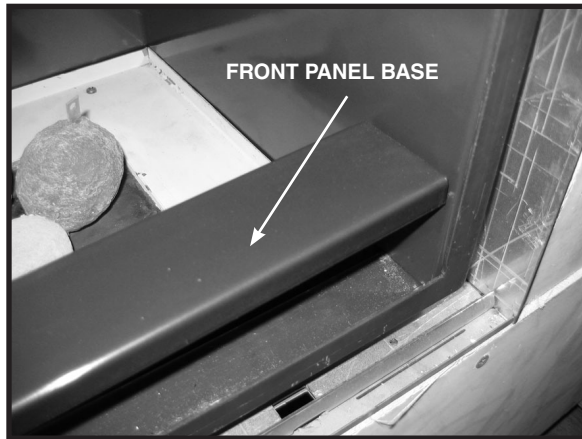

Figure 60: Front panel base.
1. Remove front panel base (Figure 60). Also remove rear panel base if Black Diamond Burner is fitted.